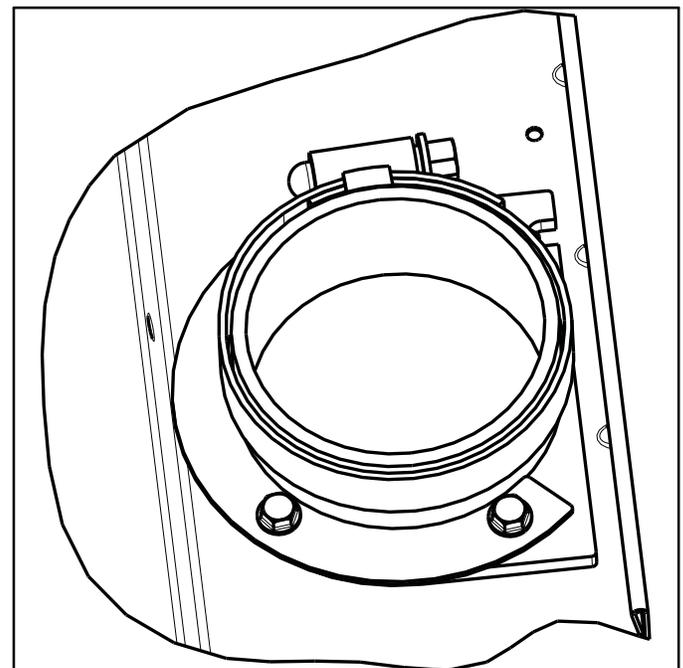

Figure 5 – Blower Shelf Seal Assembly
6. Construct the blower shelf seal assemblies by placing a clamp and a worm gear hose clamp on each of the blower shelf seals as shown in Figure 5.
7. Place the blower shelf seal assemblies in the blower compartment, resting the assemblies on the blower shelf with the flat section of the seal facing the blower shelf flange as shown in Figure 5.